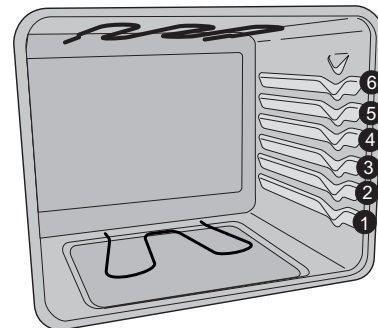

Figure 11: Rack positions
- When baking using two oven racks, position cookware to allow at least 2 inches (5 cm) of space between cookware for proper air circulation and position pans as shown in Figure 11.